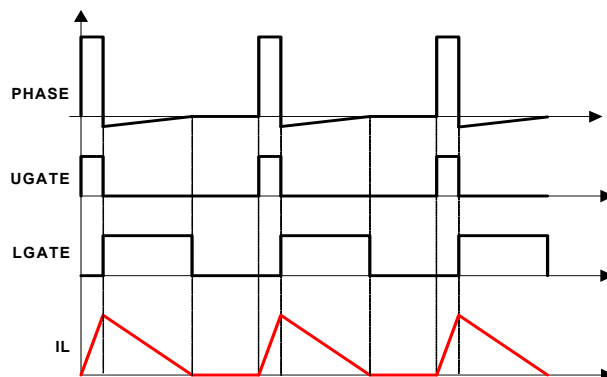

Figure 37. Diode Emulation
The R3 modulator can operate in Diode Emulation (DE) mode to increase light-load efficiency. In DE mode, the low-side MOSFET conducts when the current is flowing from source-to-drain and does not allow reverse current, emulating a diode. As shown in Figure 37, when LGATE is on, the low-side MOSFET carries current, creating
If the load current is light enough, as Figure 37 shows, the inductor current reaches and stays at zero before the next phase node pulse and the regulator is in Discontinuous Conduction Mode (DCM). If the load current is heavy enough, the inductor current never reaches 0A and therefore, the regulator is in CCM although the controller is in DE mode.